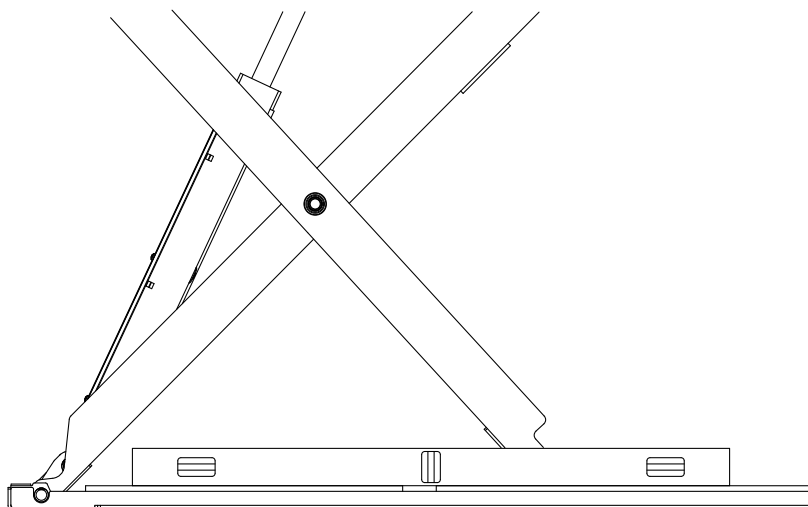

Fig. 9b
4. Verify both platform bases are level front to rear, Fig. 9b.